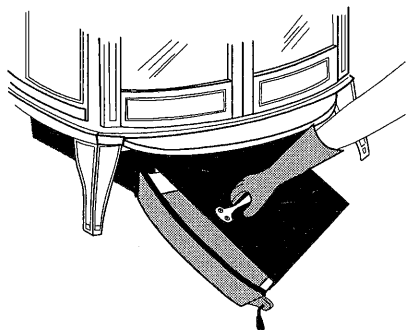

Fig. 43. Be sure the cover is securely attached before removing the ash pan.
- Slide the cover onto the pan, making sure it is securely closed. See Fig. 43.